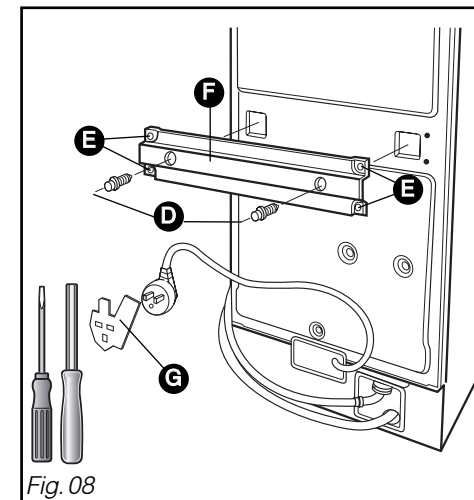

Fig. 08
- Remove the 2 screws **D** and the 4 screws **E** using a 10 mm tube wrench or a flat head screwdriver (Fig. 08).